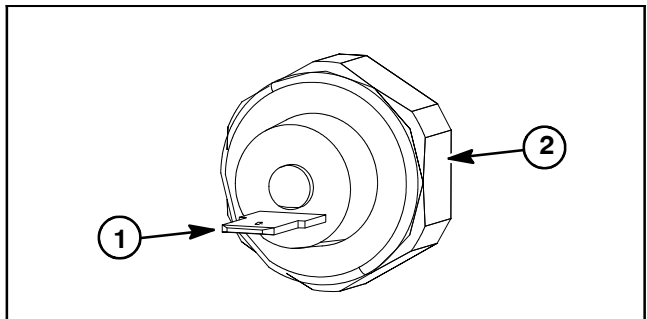

Figure 75
3. Use a digital multimeter to measure continuity between the oil pressure switch terminal and the switch base (ground connection) (Fig. 75).